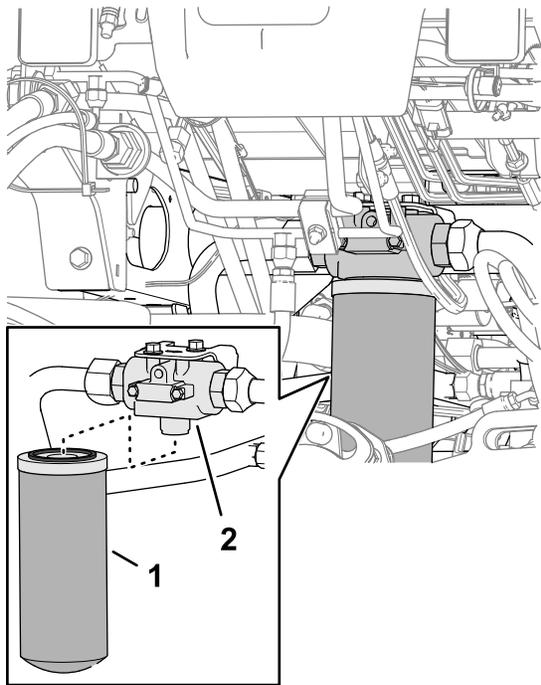

Figure 103
2. At the front of the machine, align a drain pan under the return filter (Figure 103).